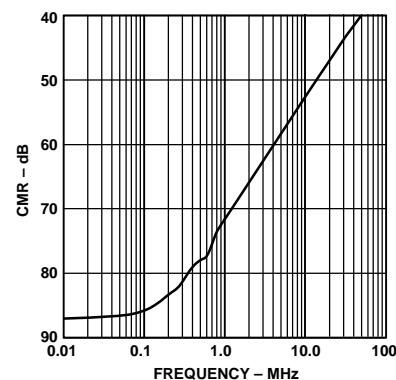

Figure 16. CMR vs. Input Frequency
Differential operation requires that VINA and VINB be simultaneously driven with two equal signals that are in and out of phase versions of the input signal. Differential operation of the AD9241 offers the following benefits: (1) Signal swings are smaller and therefore linearity requirements placed on the input signal source may be easier to achieve, (2) Signal swings are smaller and therefore may allow the use of op amps that may otherwise have been constrained by headroom limitations, (3) Differential operation minimizes even-order harmonic products and (4) Differential operation offers noise immunity based on the device's common-mode rejection as shown in Figure 16.